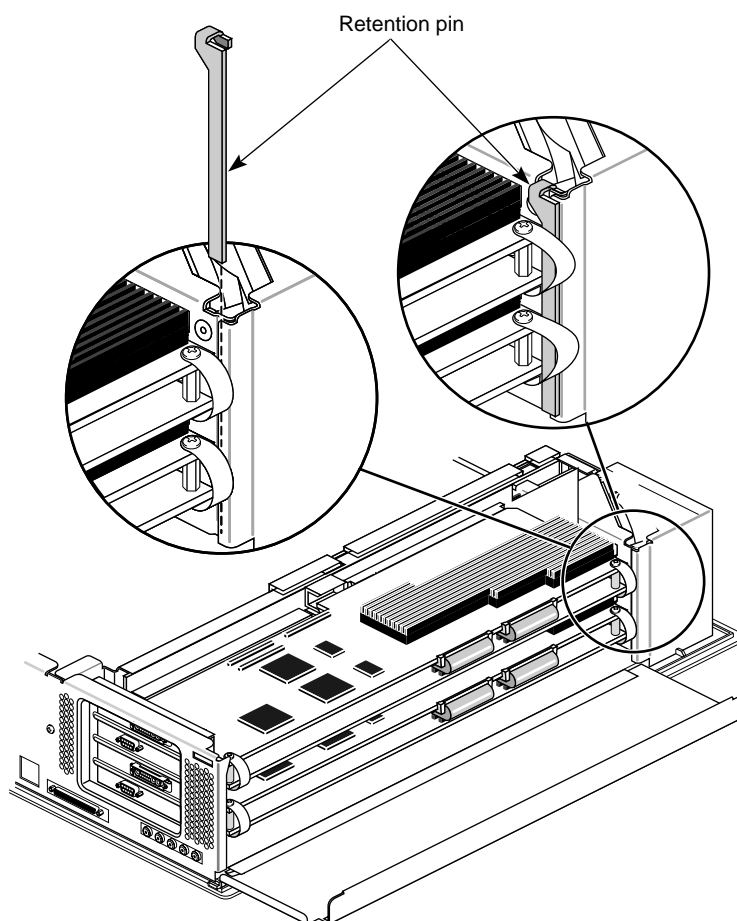

Figure 4-15 Replacing the Retention Pin
7. Replace the retention pin on the right side of the board set. See Figure 4-15. The pin rests along the front edge of the board.